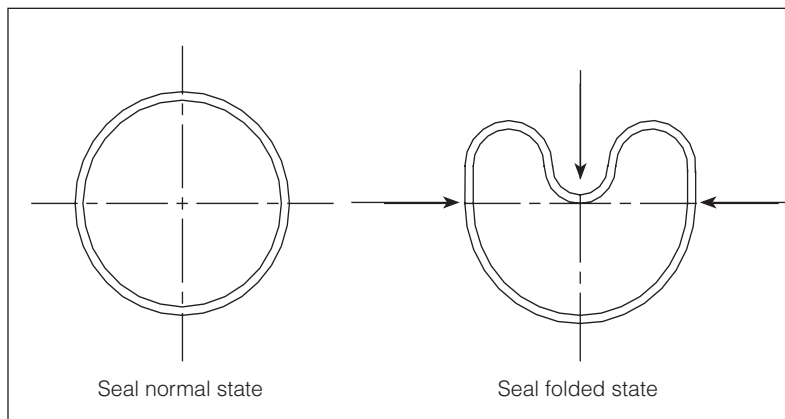
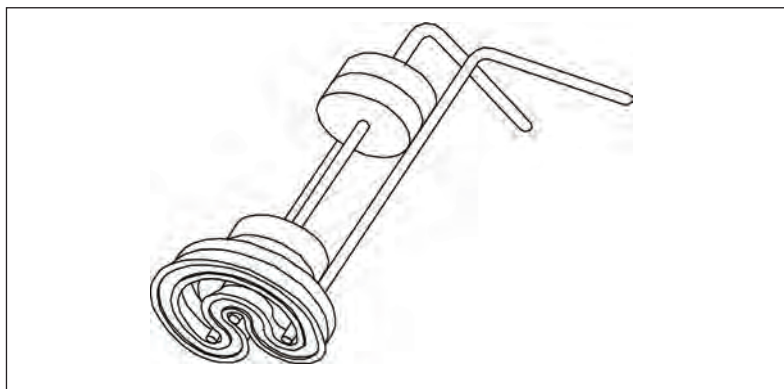

Figure 2-21. Rod seal folding
Figure 2-22. Three-leg installation tool for polyurethane and rubber seals
3. By hand, gently fold the seal into a kidney shape (Figure 2-21) and install into the groove. For rubber and polyurethane seals, the use of a three-prong installation tool can be helpful for folding the seal and installing it into the groove (Figure 2-22).